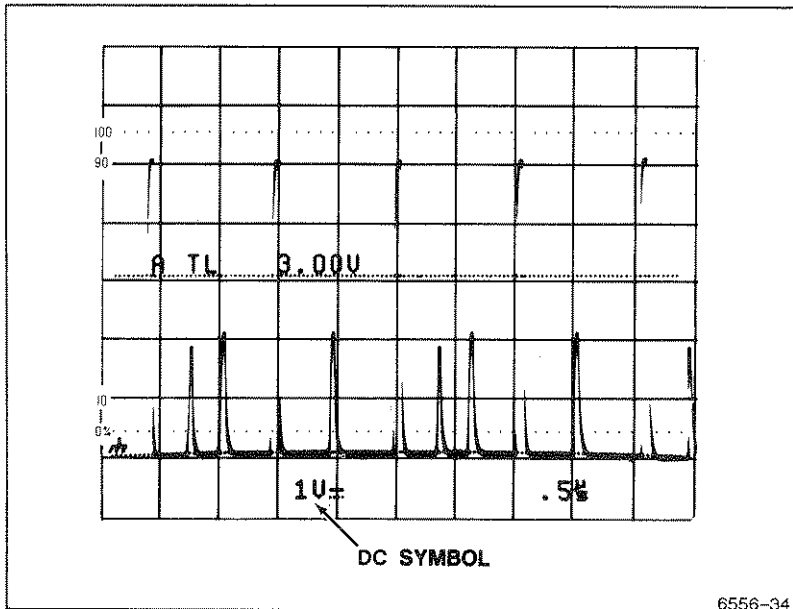

Figure 5-11. Setting a specific trigger level.
- a. The signal to be examined is a mix of two different signal levels (see Figure 5-11).
Set the VOLTS/DIV control so that the displayed signal will have a good viewing amplitude. For the assumed signal shown in Figure 5-11, a setting of 1 V/div will produce a four to five division display amplitude. Position the ground cursor (using the VERTICAL POSITION control) at about three graticule divisions below the center graticule line. (For negative-going signals, two divisions above the center graticule would about center the display; and for bipolar signals, centering the ground trace is appropriate.)